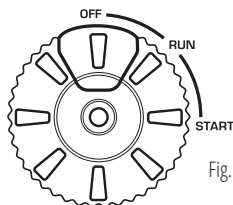

Fig. 1
- 4.2 For electric start, press the red button on the multifunctional engine switch (fig. 1)
5. After starting the engine, turn the Multifunctional engine switch to the "RUN" position (fig. 1).